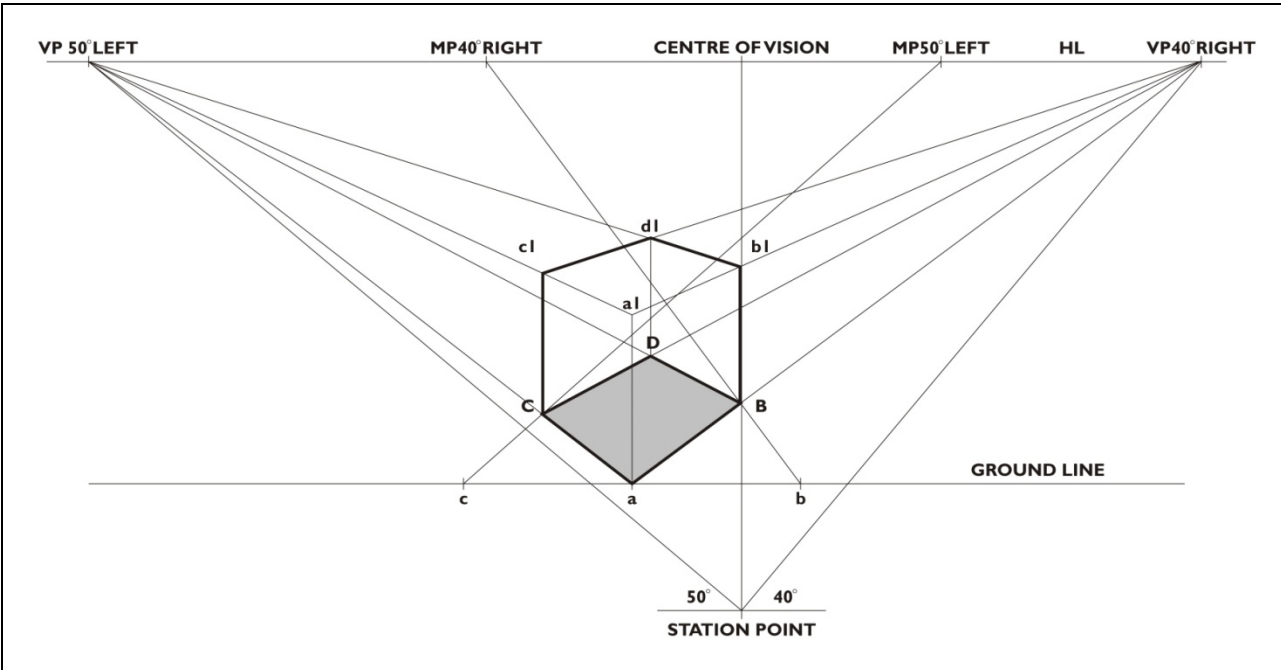

Figure 3.10 Two-point perspective cube completed
1. Complete the cube using a bold line rendering. Refer to Figure 3.10.